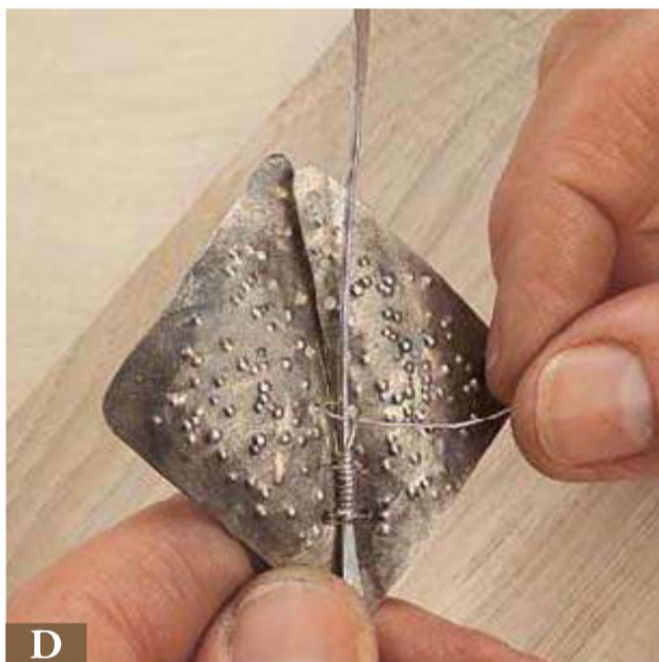

*Figure 1*
**5** With the metal punch, make seven to nine holes on either side of the connection area. The holes should be directly across from each other on each piece and approximately  $\frac{1}{4}$  inch (0.6 cm) apart and  $\frac{1}{8}$  inch (0.3 cm) from the edge (see figure 1).